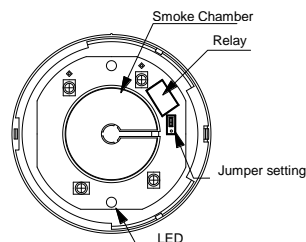

Figure 3. Schematic of detector structure When front cover is open.
- Refer to figure 3. There is a jumper head next to the relay on the PCB. Remove the jumper head and re-insert it in the required (NO or NC) position.